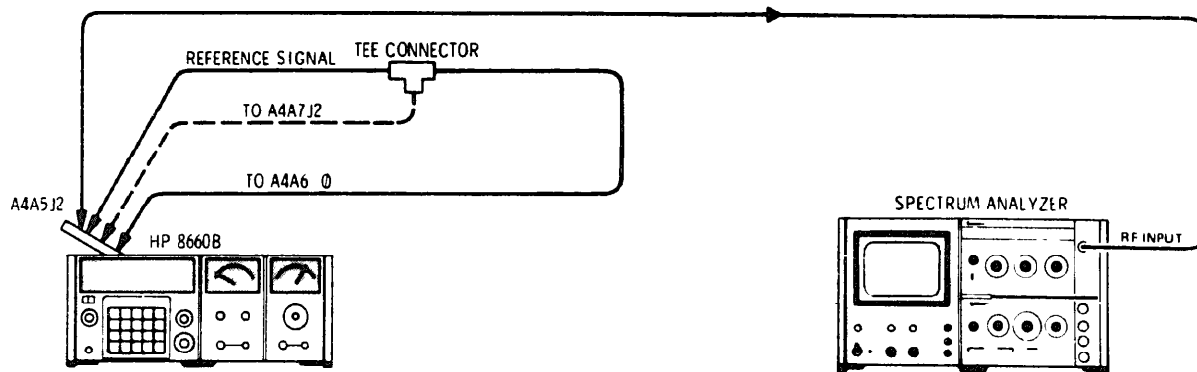

Figure 5-10. 10 MHz Trap Adjustment Test Setup
- 5. 10 MHz Trap Adjustment (see Figure 5-10).